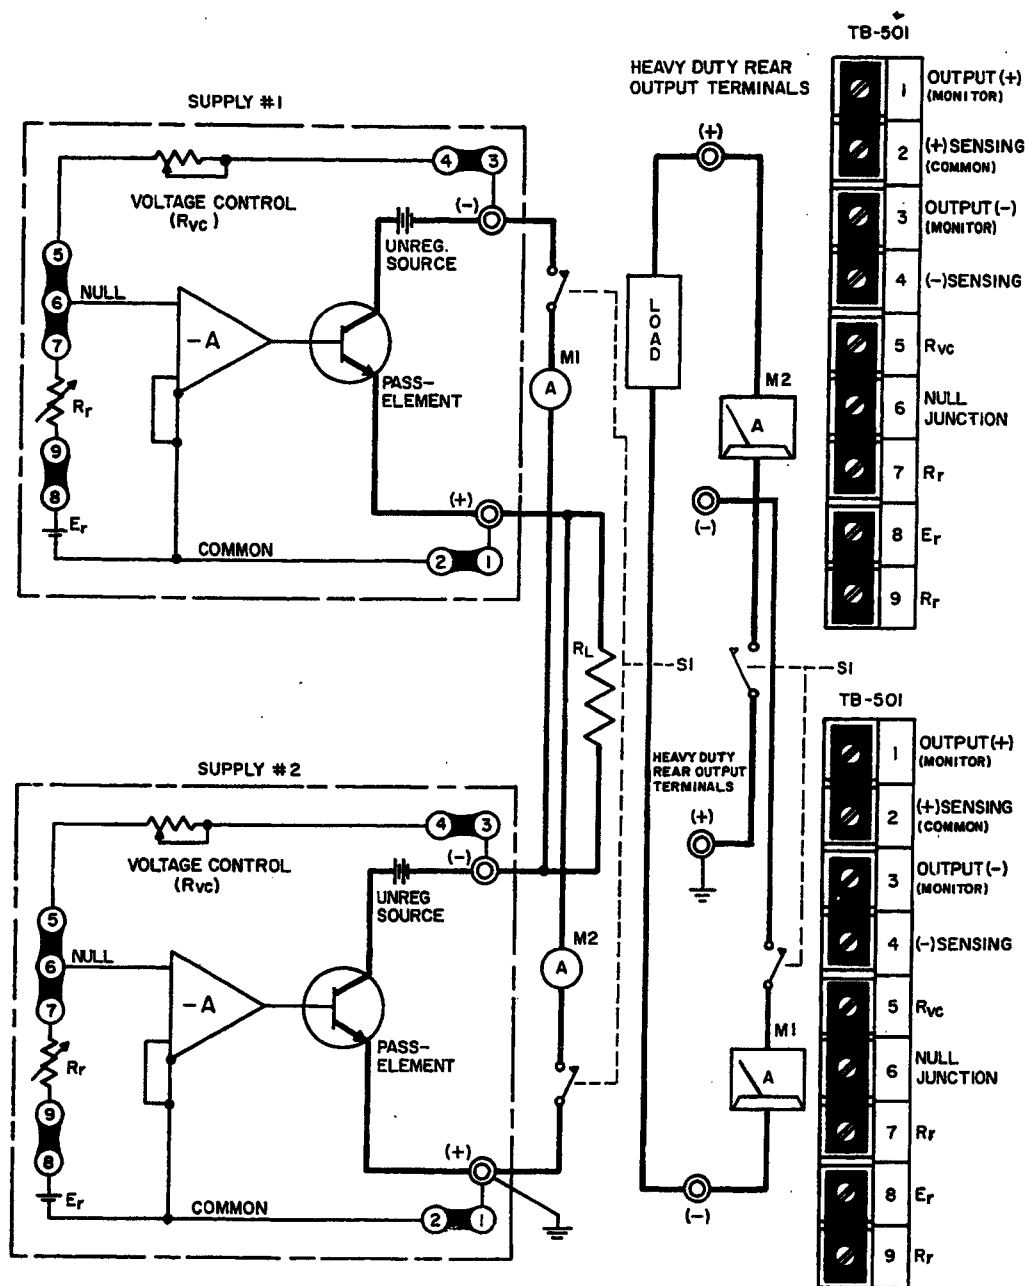

FIG. 3-13 BASIC PARALLEL CONNECTION OF TWO KEPCO POWER SUPPLIES
3-44 **PROCEDURE FOR AUTOMATIC PARALLEL CONNECTION** (See FIG. 3-13)
- 4) Make all load interconnections as shown in the connection diagram (refer to FIG. 3-13) *except the error sensing connections* (these connections may be added later if needed).